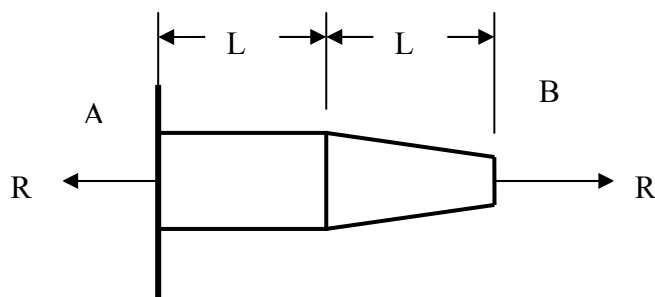

Figure Q 1(a)
- (a) Deduce an expression for the elongation of the bar, shown in figure Q 1(a) below, consisting of two equal sections, a straight section and a tapering section. On the tapering section the diameter changes from d_A at the centre to d_B at the end B. The bar is made of material with modulus E . [10]
- (b) What is the elongation δ of the tapering bar of Figure Q 1(b), having length L and is made of material with modulus of elasticity E , and the diameter varies from D at end A to $D/2$ at end B? The bar is loaded with tensile force P . [10]